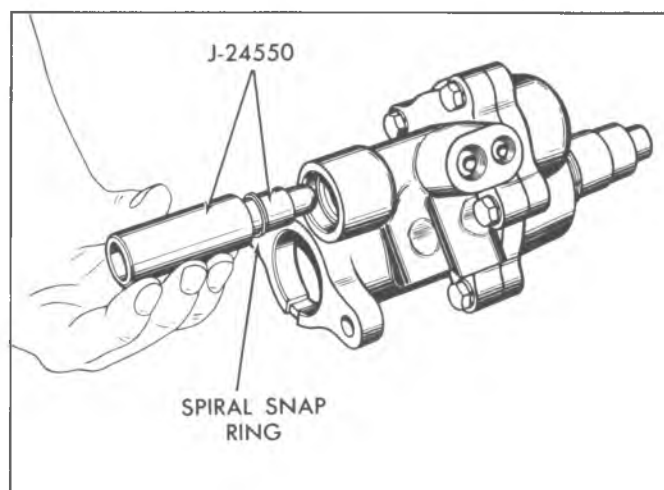

Fig. 8E--Installing Spiral Snap Ring
11. Separate the two parts of Snap Ring Installing Tool J-24550 and place the **NEW** spiral type spool retaining ring on the tool as shown in Figure 8E. Insert the rounded end of the tool into the spool. Then while pressing on the rear of the spool, slide the retaining ring off the tool and into the groove near the forward end of the spool by pressing in on the tool sleeve. Check to be sure that the retaining ring is fully seated.